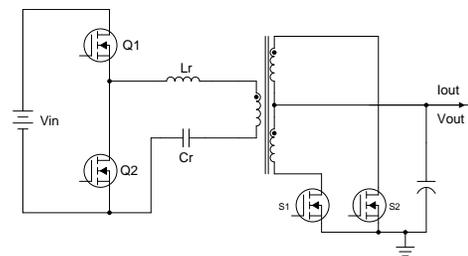

Figure 2. LLC Converter with SR
Using the Synchronous Rectifier (SR) as shown in Figure 2, the voltage drop on the MOSFET could be much lower than a typical diode forward voltage.